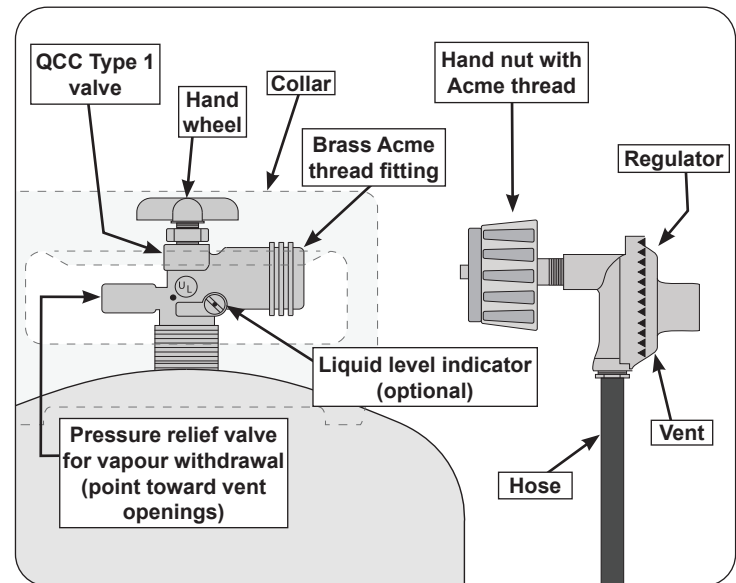

Fig. 9-1 Type I Acme thread coupler
- The cylinder used must include a collar to protect the cylinder valve. The cylinder supply system must be arranged for vapour withdrawal. See Fig. 9-1.
- When used with a cylinder, the gas supply system must be used with a pressure regulator. The pressure regulator and hose assembly (Fig. 9-1) supplied with this outdoor gas appliance (**select L.P. models only**) must be used. Original and replacement pressure regulator and hose assemblies must be those specified by the manufacturer for connection with a cylinder connecting device identified as Type I by the ANSI Z 21.58/CGA 1.6 and must comply with UL 144 as a part of the self-contained LP gas supply system (see PARTS LIST for ordering information).
To disconnect: Turn the hand nut counterclockwise until detached (Fig. 9-1).